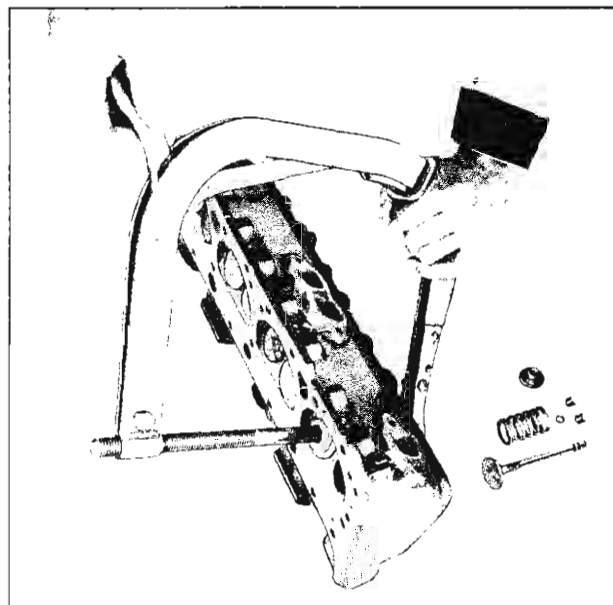

Fig. 62—Removing Valves
1. Place cylinder head assembly on it side on a bench and, using Tool J-8062, compress valve spring and remove valve locks. Release tool and remove spring retainer, valve shield, spring and dampener and seal from stem. Repeat this operation on each valve (fig. 62).
3. Place rotator in position, if used, and install cap. Compress the spring with Tool J-8062 (fig. 62).